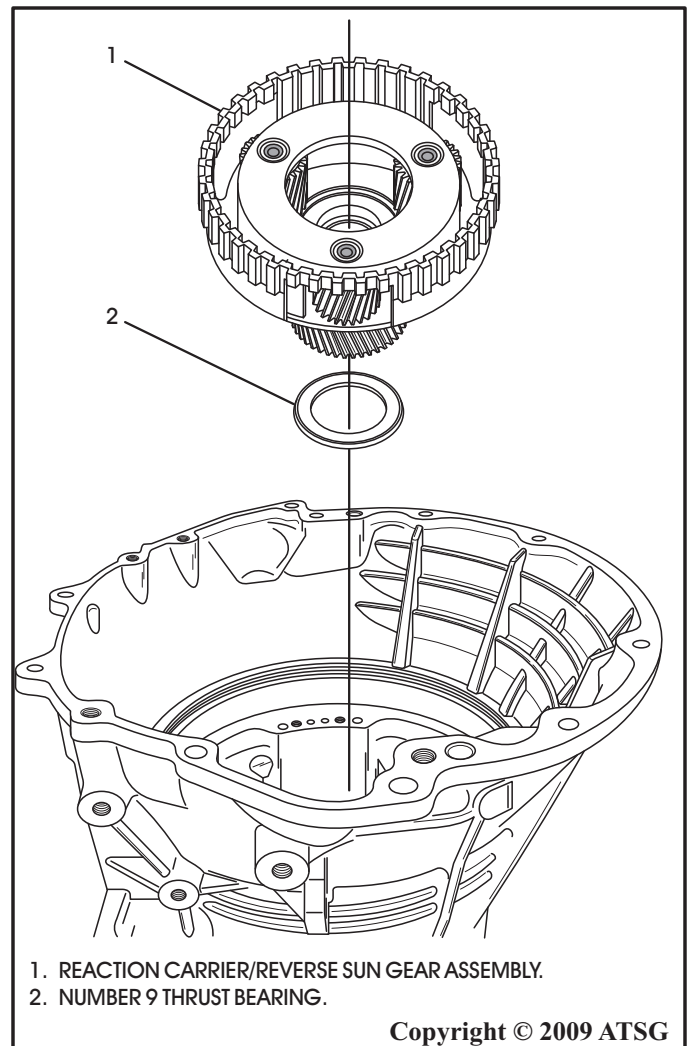

Figure 41
39. Remove the reaction carrier/reverse sun gear assembly as shown in Figure 41.
40. Remove the number 9 thrust bearing as shown in Figure 41.